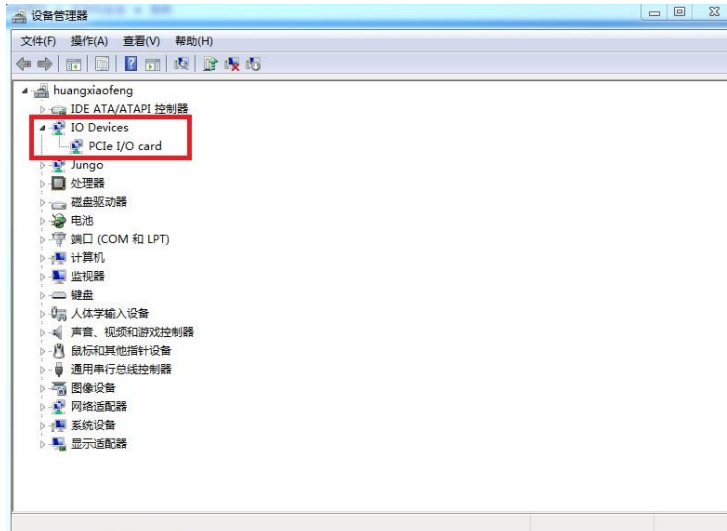

Figure 3-2 Driver successfully installed interface
2. After the installation is complete, in the “Device Manager”, you can see the driver of the IO control card, as shown in Figure 3-2: